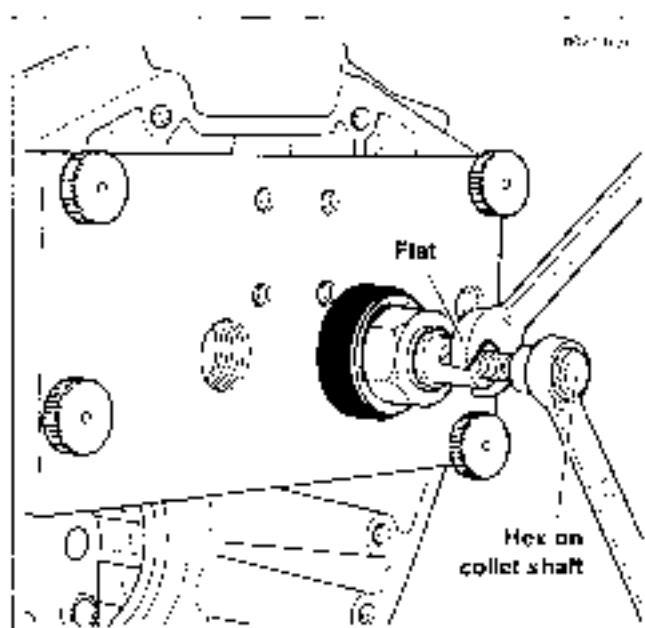

Figure 3-143. Expanding Collet By Turning Hex Clockwise
10. See Figure 3-143. Using a 7/16 in. open end wrench, hold flat on collet to prevent rotation. Using a second 7/16 in. open end wrench, expand collet by turning hex at end of shaft in a clockwise direction. Expandable end of collet makes contact with needle bearing (7).